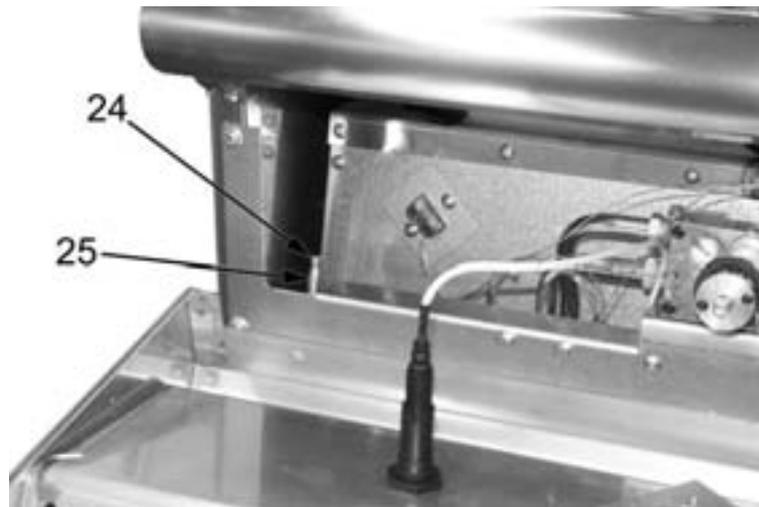

Fig. 10
- unscrew the screw (item 24 in Fig. 10) on the pressure port (item 25);
- replace the sealing screw (item 24 in Fig. 10);